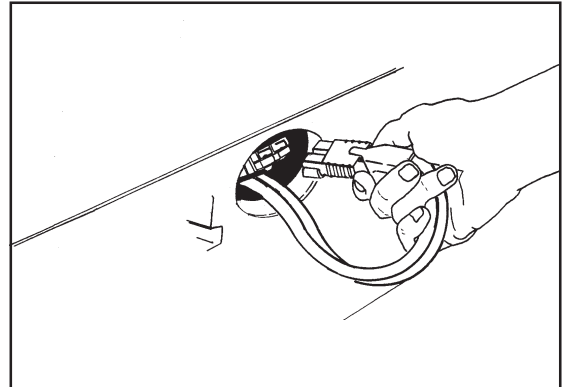

Figure 22
3. Join the connector from the batteries to the control panel cable connection. See figure 22.